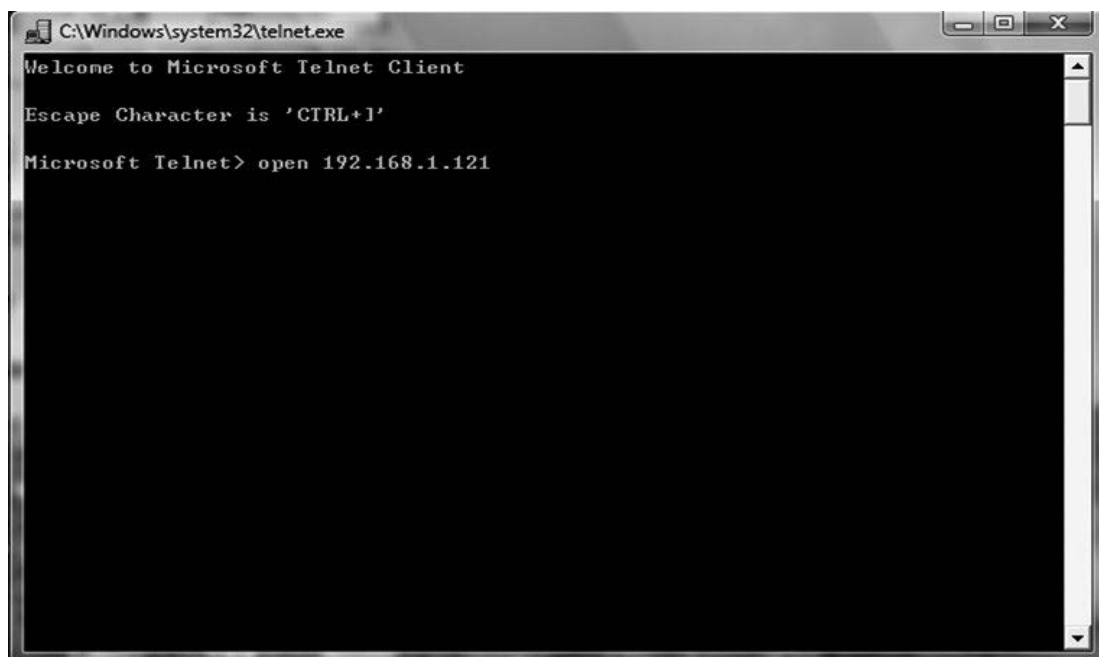

Figure 2-4
**3.2.3.2. Enter the IP address as illustrated in figure 2-4**